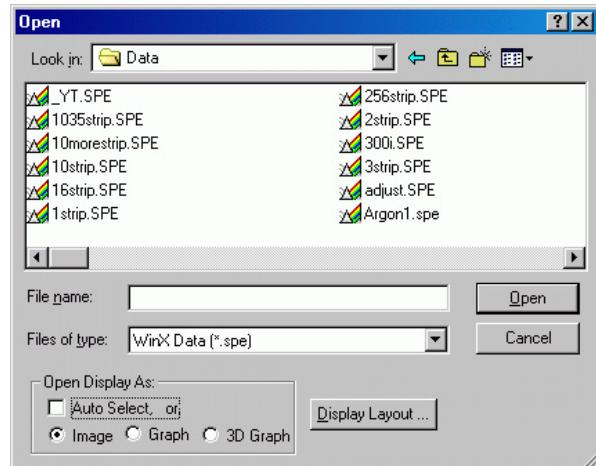

Figure 52. Open dialog box
1. Select Open from the File menu. The File Open dialog box will appear (Figure 52).
2. Open the directory containing the data files. Clicking on the button at the right of the Look In field opens a browser function, allowing you to quickly and easily access the correct folder. As shown in Figure 52, the data files will be listed below.